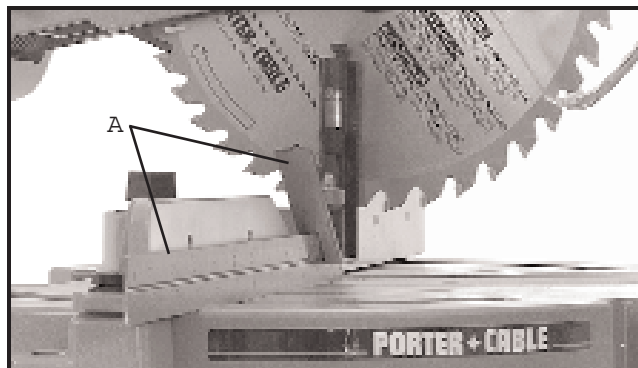

Fig. 28
3. Using a square (A) Fig. 28, place one end of the square on the table and the other end against the blade, as shown. Check to see if the blade is at 90 degrees to the table.